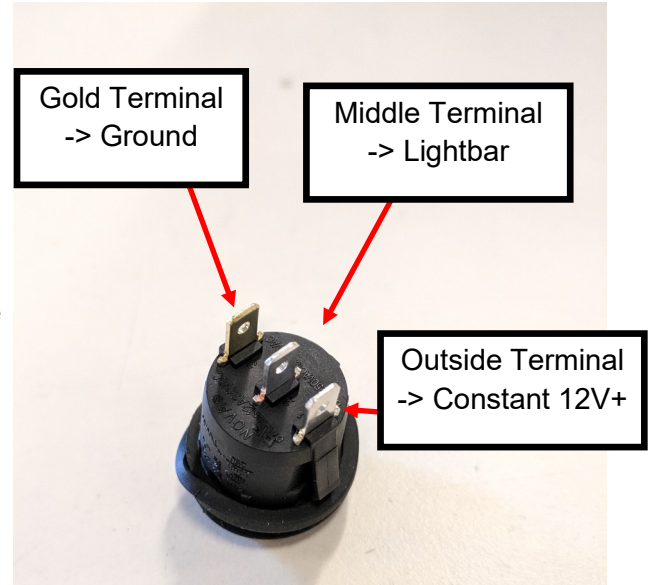

Figure 5. Switch terminal identification.
2. Take a switched positive 12 volt power and tie it into the green wire. When 12 volt positive is applied to the green wire, the Blade will strobe. If using the provided switch, connect the gold terminal to vehicle ground, the middle terminal to green wire, and the final terminal to a constant 12 volt source (**Figure 5**).
3. Take a switched positive 12 volt power and tie it into the white wire. If using the provided switch, connect the gold terminal to vehicle ground, the middle terminal to white wire, and the final terminal to a constant 12 volt source (**Figure 5**).